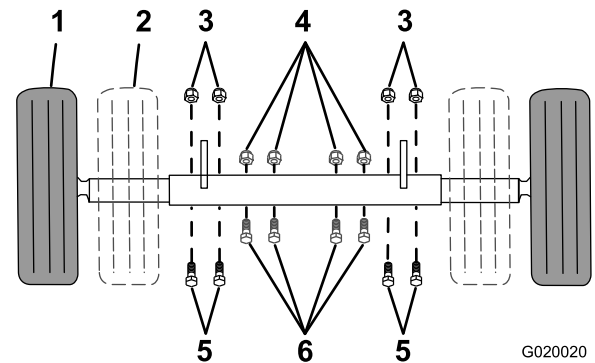

Figure 28
If your model is equipped with an adjustable axle (Figure 28), you can adjust the axle to the narrow position to move the machine through a narrow access point, such as the gate of a fence or the doorway of a building.
1. Support point (2)
7. Remove the bolts and nuts that secure the inner axle to the outer axle (Figure 28).
- Slide each side of the axle inward to the narrow position (Figure 28).
- Slide each side of the axle outward to the wide (tow) position (Figure 28).
9. Secure the axle with the bolts and nuts removed previously (Figure 28) and torque them to 87 N·m (64 ft-lb).